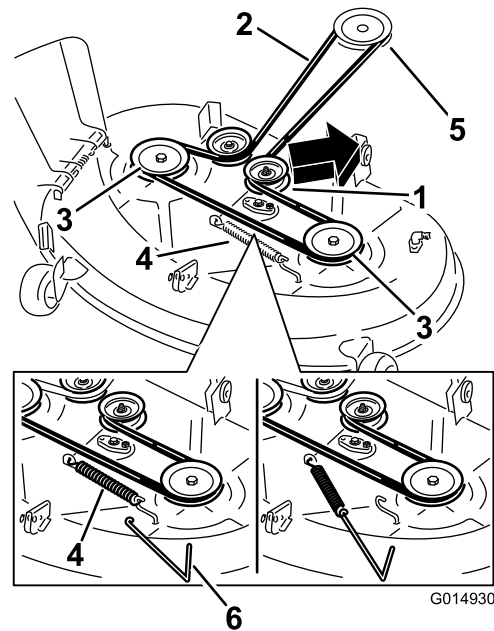

Figure 57
5. Route the new belt around the engine pulley and mower pulleys (Figure 57).
6. Using a spring removal tool, (Toro part no. 92-5771), install the idler spring over the deck hook and placing tension on the idler pulley and mower belt (Figure 57).
4. Using a spring removal tool, (Toro part no. 92-5771), remove the idler spring from the deck hook to remove tension on the idler pulley and roll the belt off of the pulleys (Figure 57).